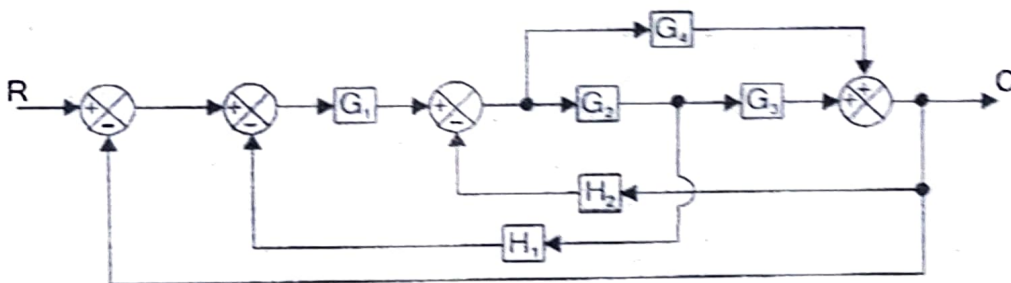

Figure 1
- 2) a) Using block diagram reduction technique find closed loop transfer function of the system whose block diagram is shown in figure 1